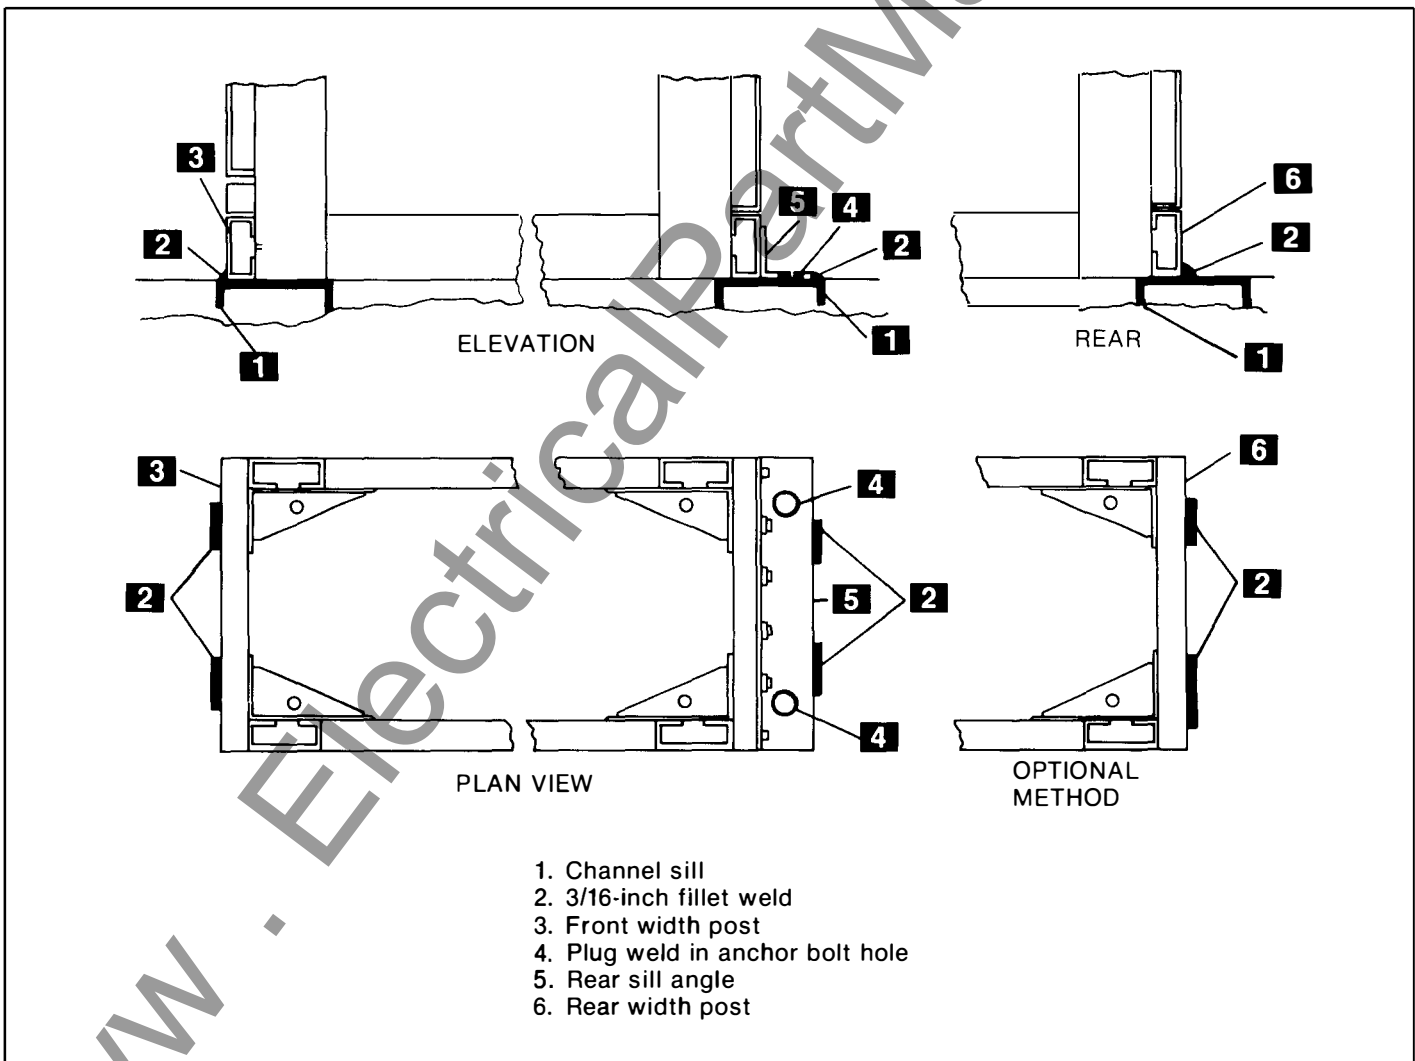

Fig. 4-19. Indoor equipment weld anchoring
2. **ANCHORING BY WELD**—An alternate method of anchoring the equipment to its foundation is to weld the equipment to floor sills (or the floor itself if constructed of steel). Several methods, shown on Fig. 4-19, are available to the purchaser for welding the equipment to the channel sills.
- a. *The front of the equipment* is attached to the embedded channel sills (1), Fig. 4-19, by two $\frac{3}{16}$ -inch fillet welds (2). It is recommended that two welds, each $2\frac{1}{2}$ inches long (min.), be used for each section to firmly tie the bottom width post (3) to the channel sill.
- The first method is by plug welds (4), Fig. 4-19, using the anchor bolt holes in the rear sill angle (5). The plug weld should receive a minimum $\frac{1}{8}$ -inch bead around the entire circumference of the anchor bolt hole.
- A second method of securing the rear sill angle (5) to the channel sill (1) is the use of two linear fillet welds (2) for each section. It is recommended that each weld be $2\frac{1}{2}$ inches long (min.) with a $\frac{3}{16}$ -inch fillet (min.).